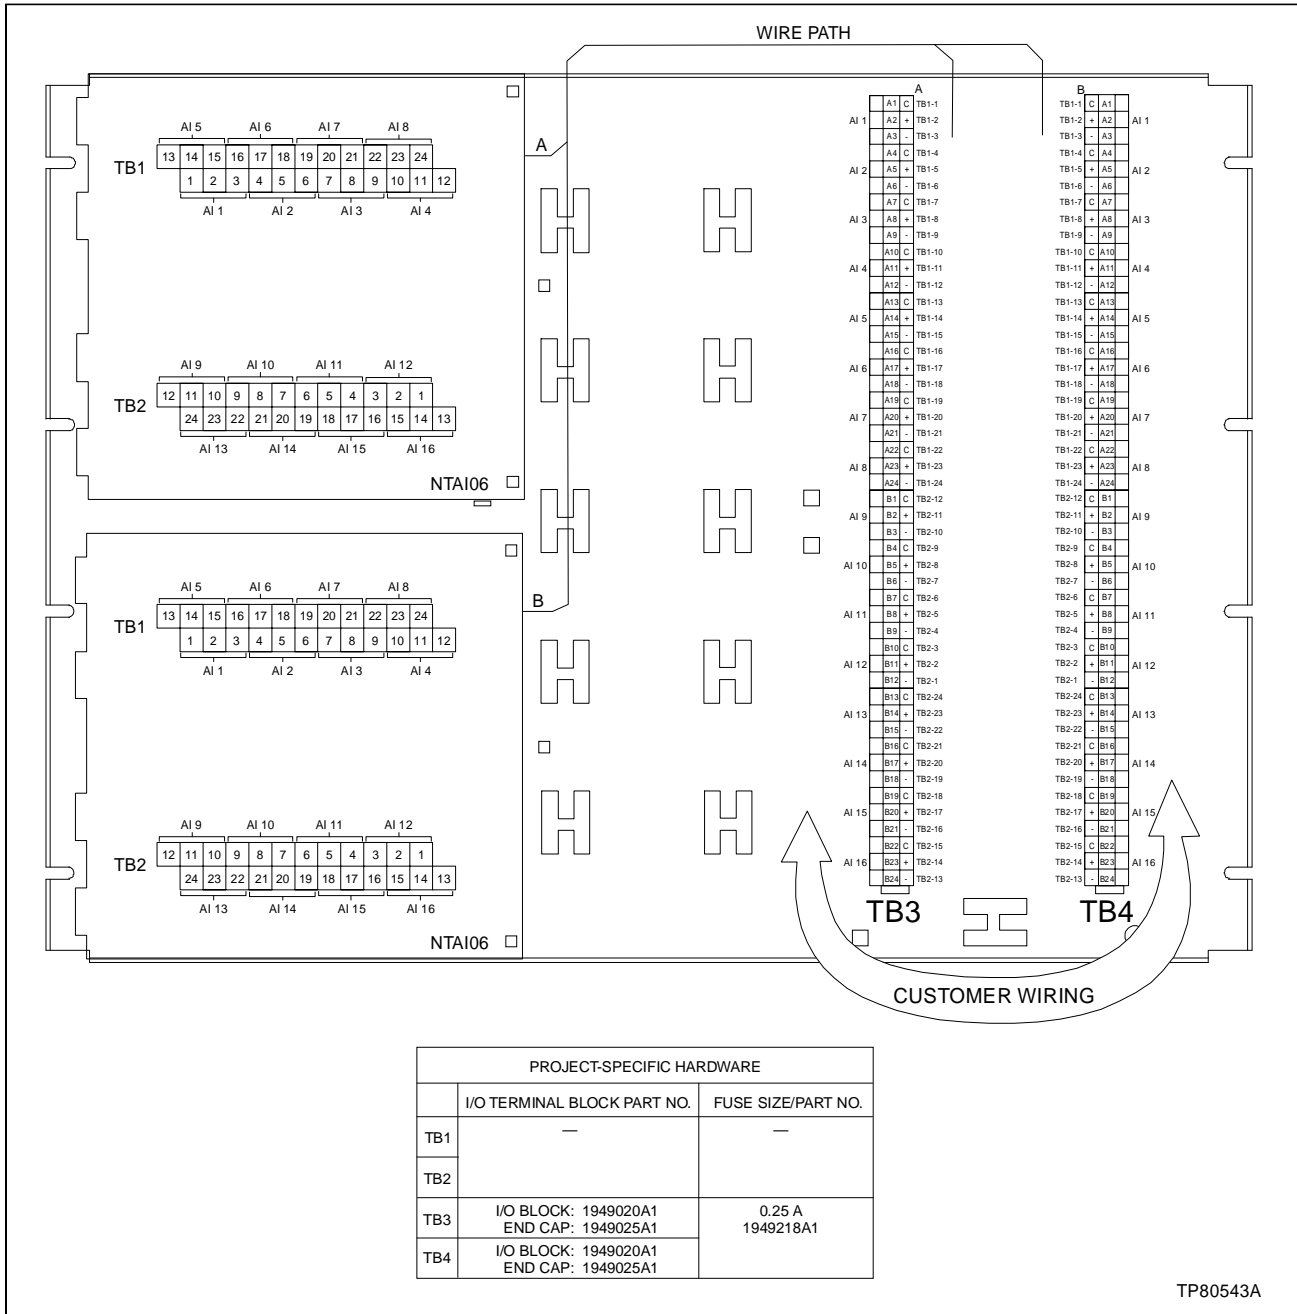

Figure 2-3. Analog Inputs; Compression Straight-Through Terminal Blocks and Termination Units
**Figure 2-3** This example shows the RTS system installed for analog inputs from an IMASIO3 TC/RTD analog input module using the compression straight-through style terminal blocks available. Note the termination units (NTAI06) mounted on the left side of the panel.